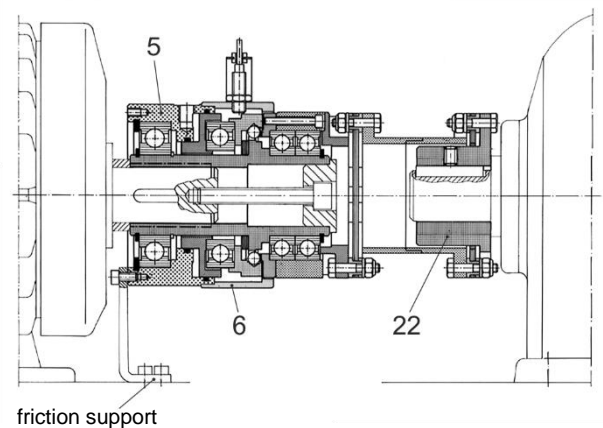

Fig. 4
On EAS®-Sp with torsionally rigid flexible all-steel coupling, a set screw holds the hub (22) of the flexible coupling onto the shaft (Fig. 4).